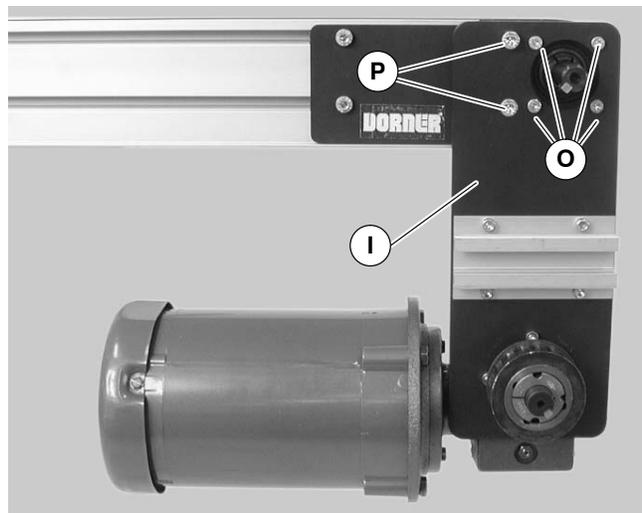

Figure 7
4. Attach mount assembly (I of Figure 7) with two (2) M8 screws (P) and four (4) M6 screws (O). Tighten M6 screws (O) to 146 in-lbs (16.5 N-m) and M8 screws (P) to 288 in-lbs (32.5 N-m).